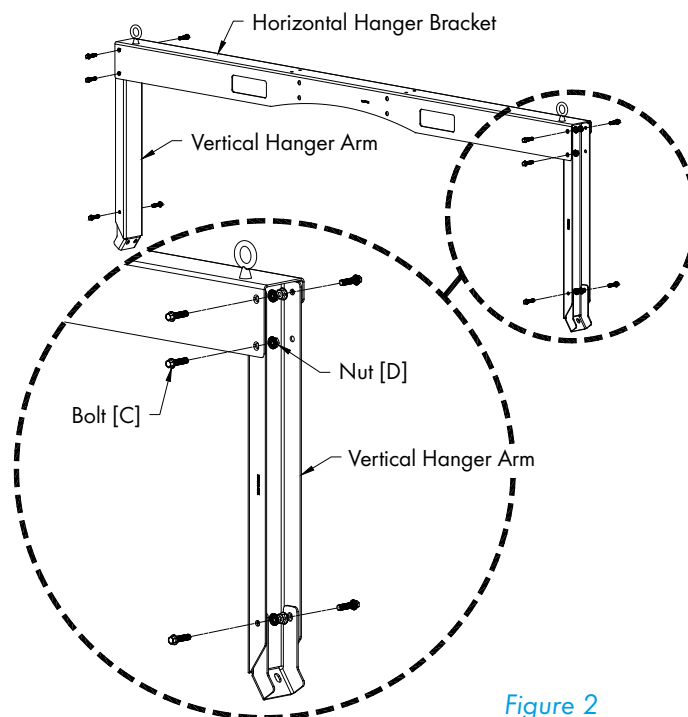

Figure 2
Attach each of the two Vertical Hanger Arms to the Horizontal Hanger Bracket using (3) Bolts [C] and Nuts [D], making sure the opening in the "C" channel faces outward and the angled "Foot" is pointing down and out. Then add (2) Bolts [C] and Nuts [D] to the lower pair of holes in the Hanger Arms. *See Figure 2.*